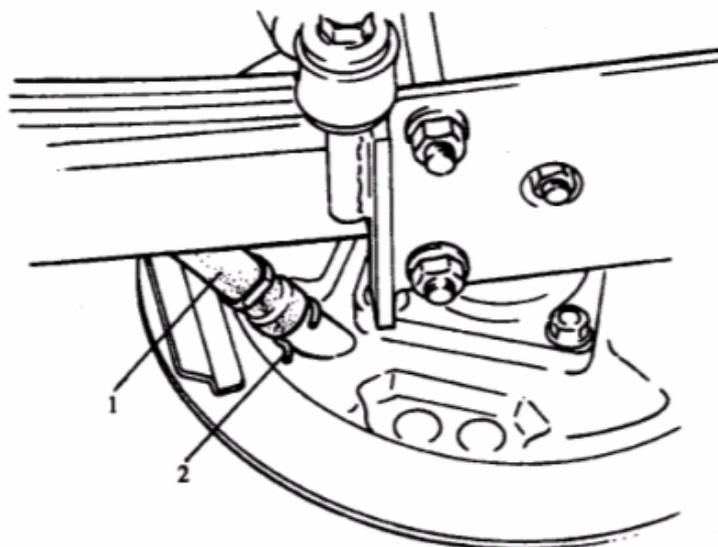

FIG 13-6
(9) Remove parking brake cable from brake back plate after removing cable clamp. (FIG.13-6)